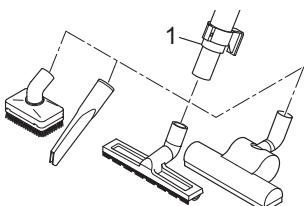

Fig. 9
3. Push the desired nozzle on the lower end of the telescopic tube or if necessary directly onto the handle (Fig. 9).